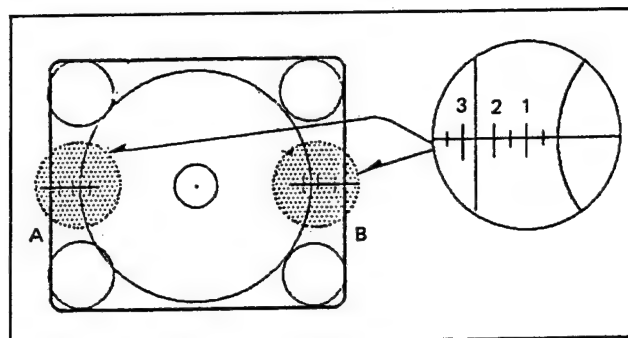

Fig. 40
7. Adjust horizontal width by R563 (H. Size) so that the $A = B = 2.5 \pm 0.5$ as shown in Fig. 40.